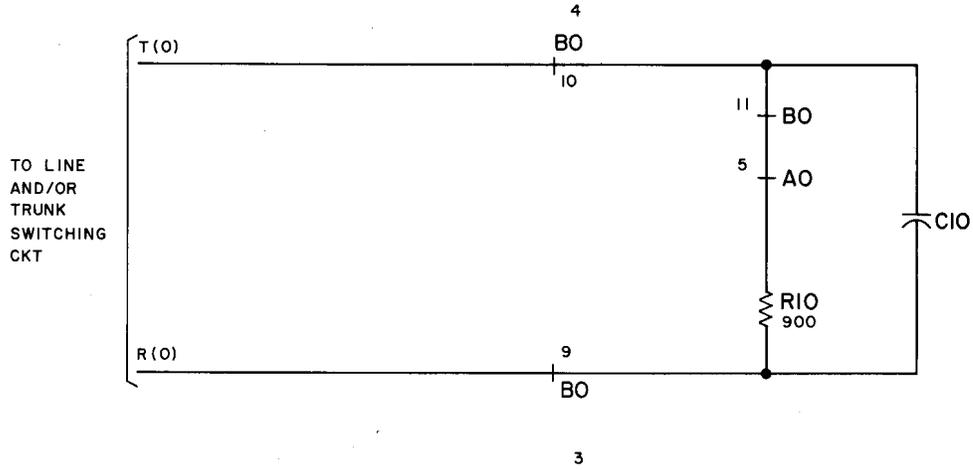
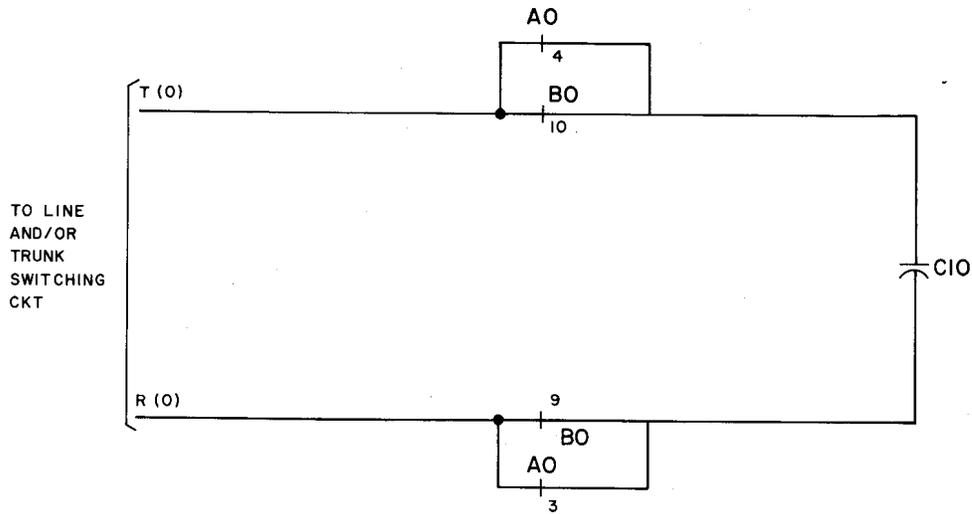

Fig. 2—Short Circuit Termination Circuit (State 2)
Fig. 3—Short Circuit Termination Circuit (State 3)
1.04 *Trunk Testing:* When testing a trunk from a distant office, relay B0 is first operated by the PD circuit for a continuity check (State 2) when the short-circuit termination test is requested (Fig. 2). After the continuity check state has been set, program control allows relay A0 to be operated placing the trunk in the short-circuit termination test state (State 3). See Fig. 3.